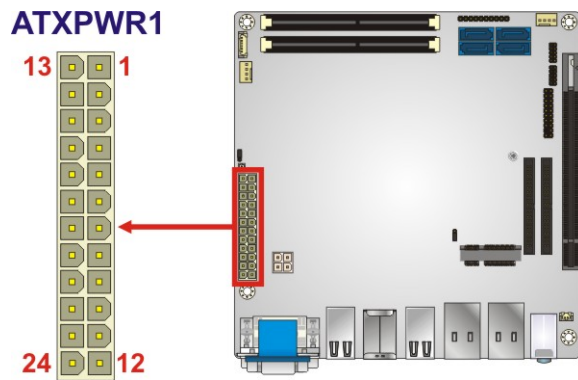

Figure 3-3: ATX Power Connector Pinout Locations
- CN Location:** See **Figure 3-3**